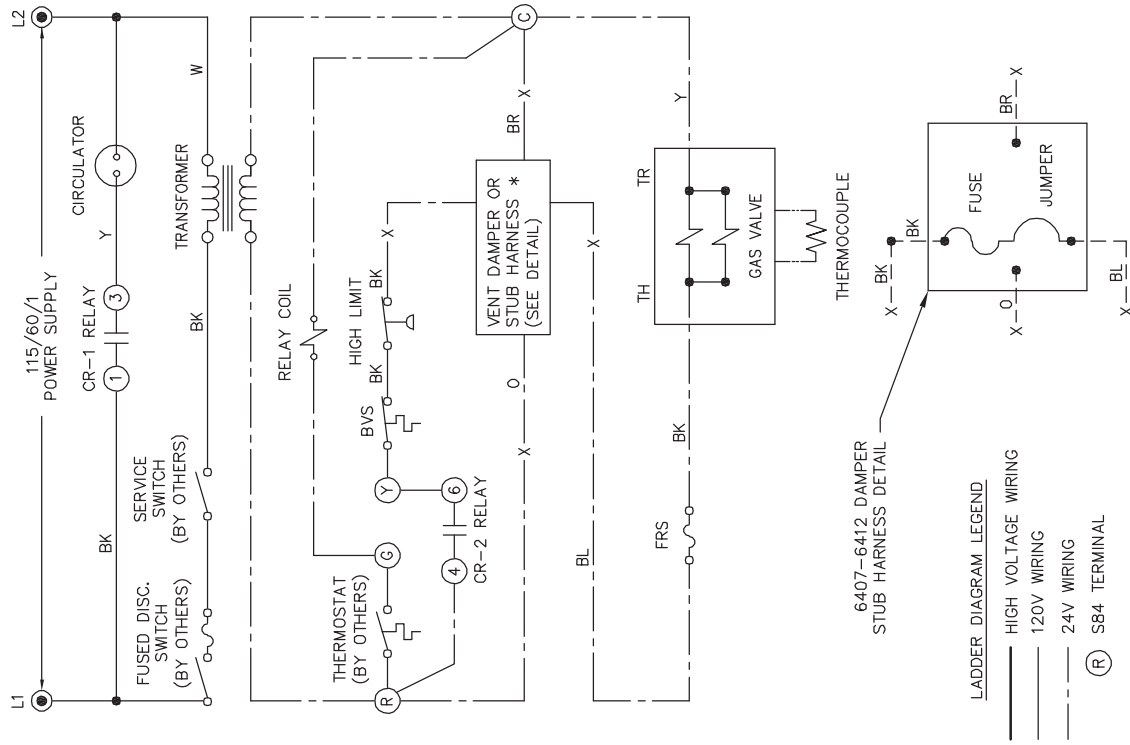

Figure 7.6: Water Boiler with Standing Pilot. Wiring Diagram for Series 63™ and for Models 64-07 and 64-08 with LP Gas Fuel.
- Wire the boiler according to the wiring diagram supplied with the boiler (in the Control Envelope). Figures 7.6 to 7.15 are provided for reference only.